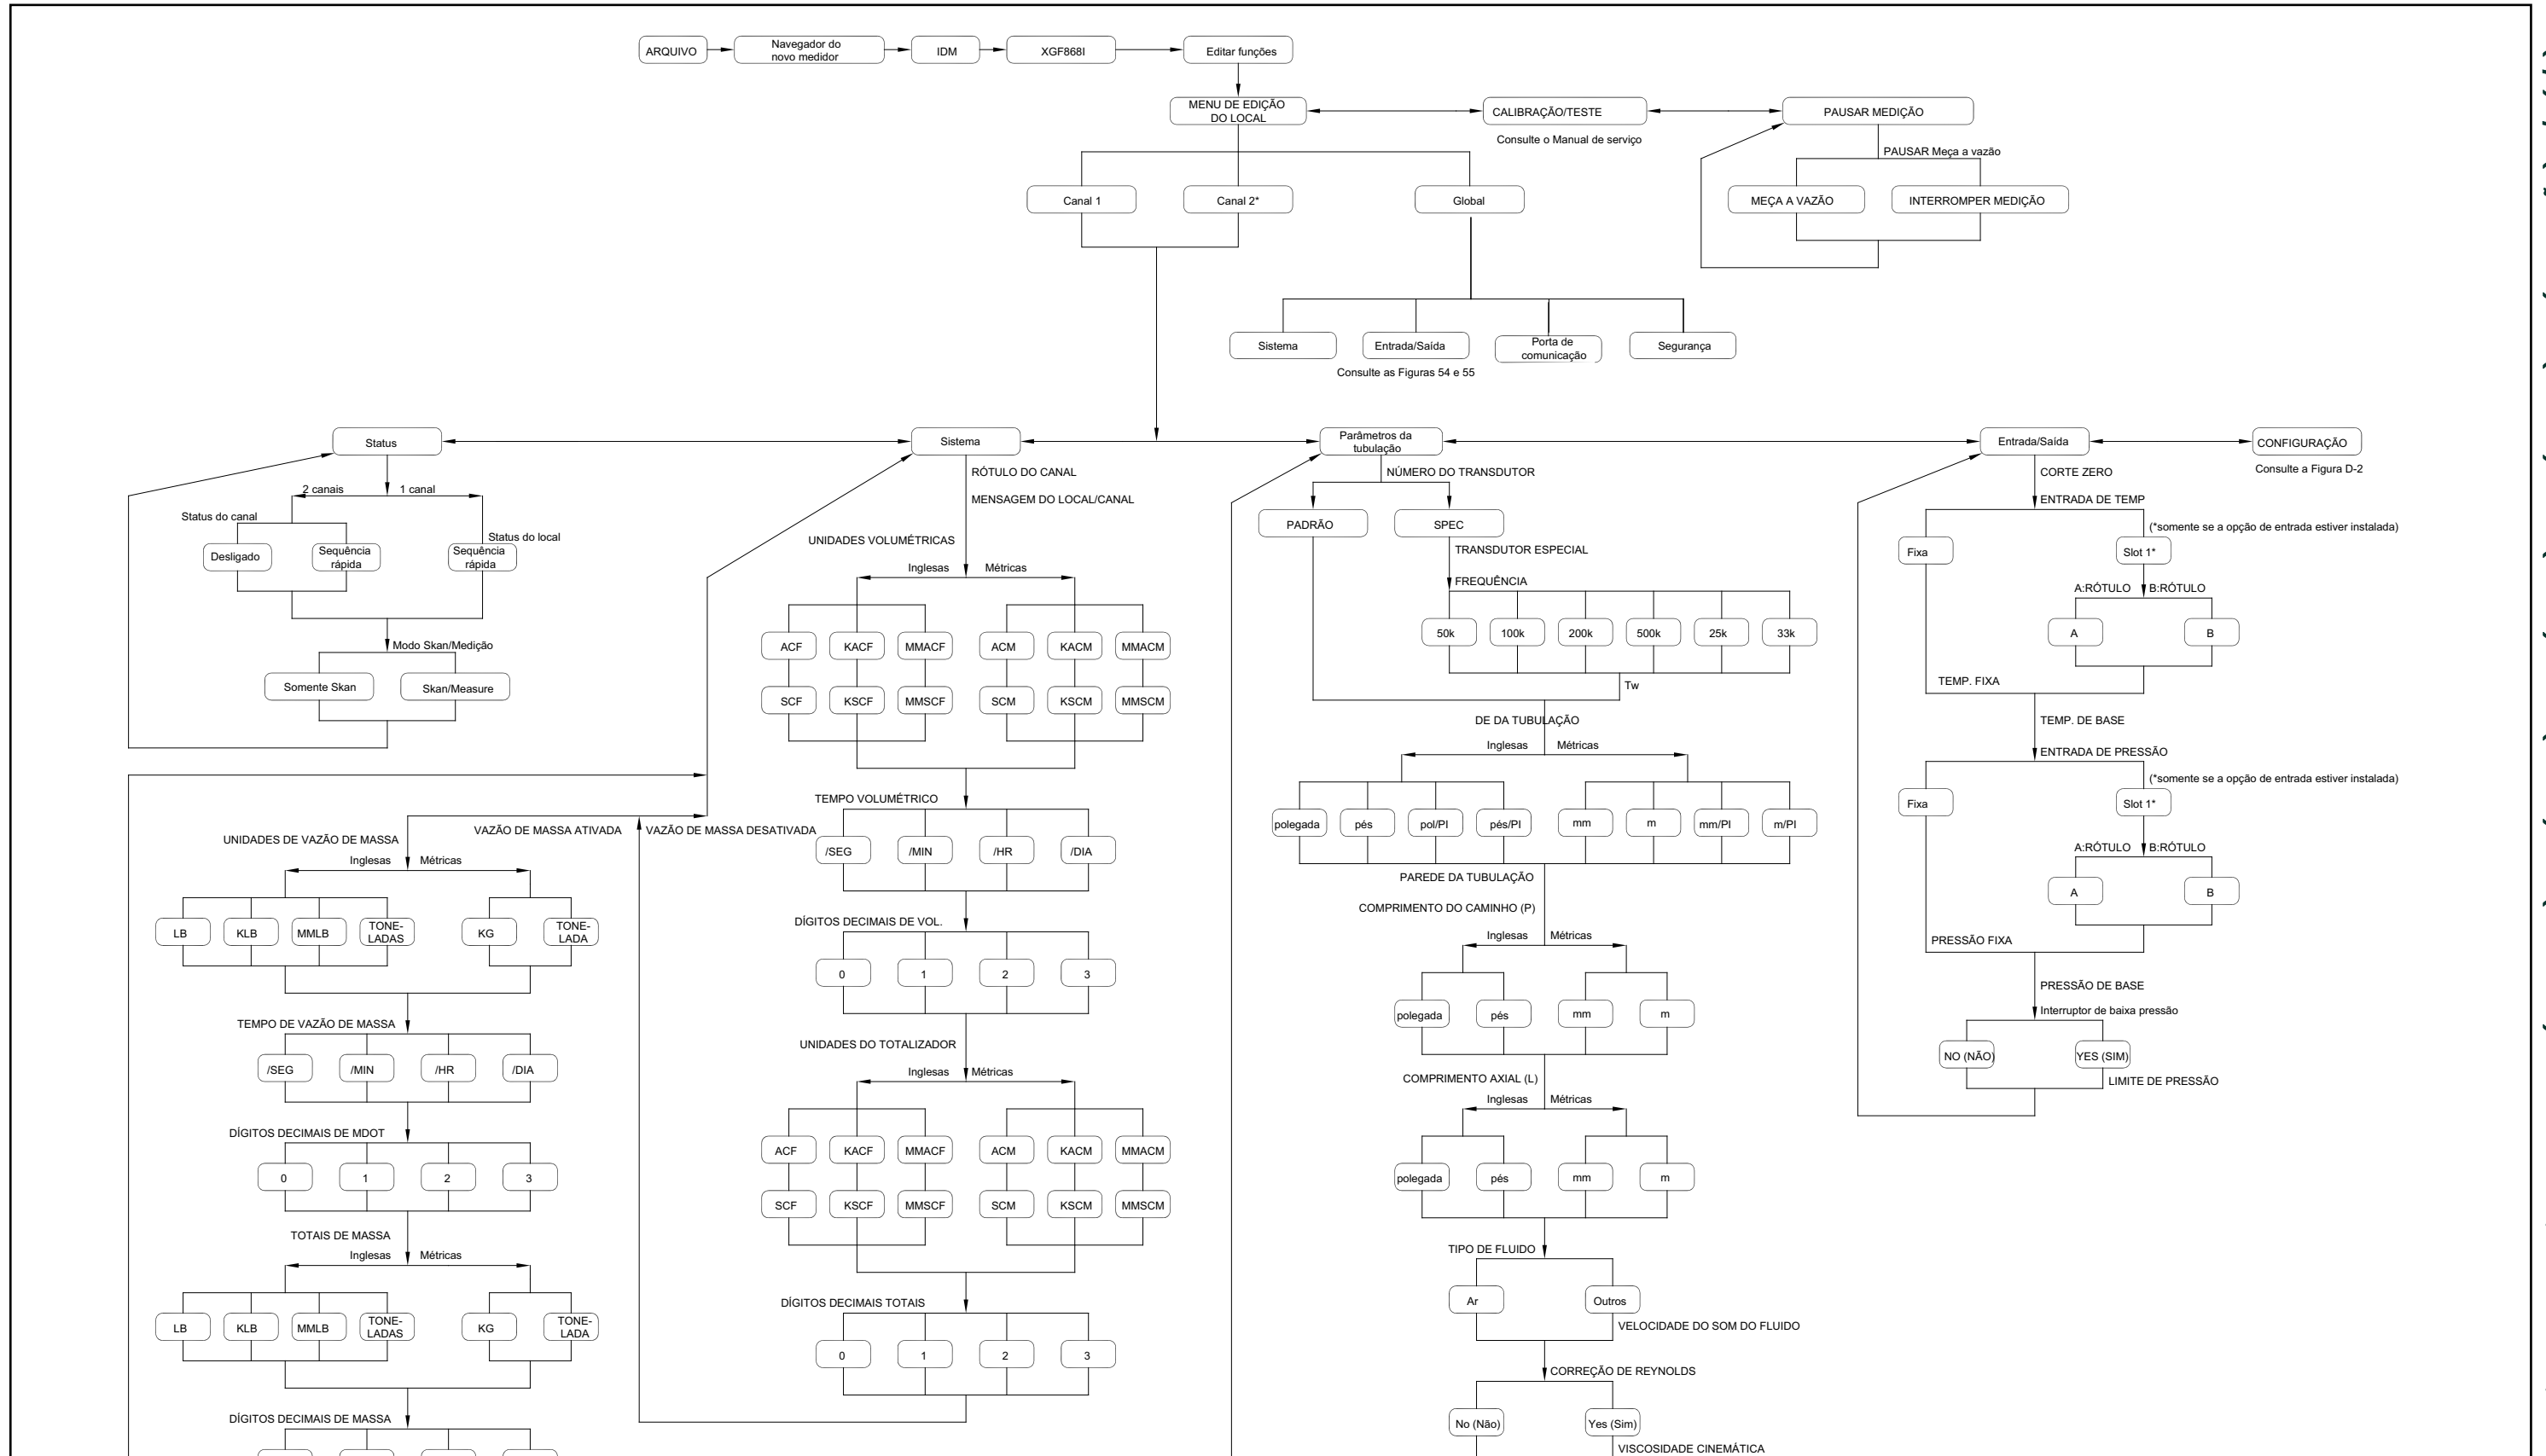

Figura 55: PanaView – Menus PROG (PROGRAMA) > CHX (canal x) > ACTIV (ATIVAR), SYSTEM (SISTEMA), PIPE (TUBULAÇÃO) e I/O (E/S)
- Figura 55, "PanaView - Menus PROG (PROGRAMA) > CHx (Canal x) > ACTIV (ATIVAR), SYSTM (SISTEMA), PIPE (TUBULAÇÃO) e I/O (E/S)", na página 113